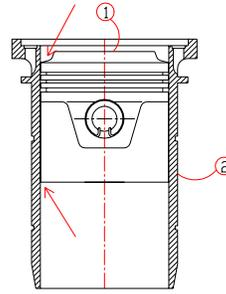

Fig. 8
- Using the eyebolt refit the piston into the liner and measure the clearance between the piston (1) and liner (2) at the first and second land (Fig. 8). This measurement must be observed at the thrust